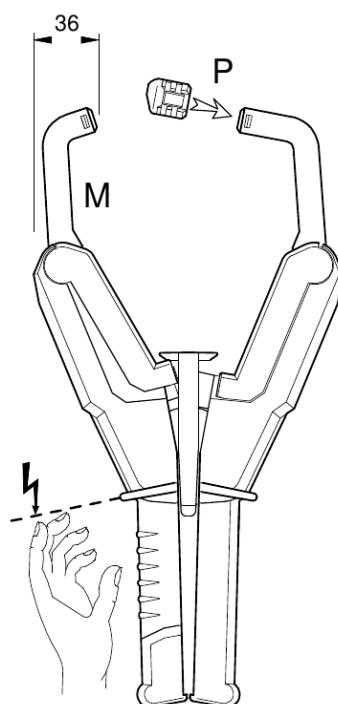

Figure 2.57: Protection against electric shock and short-circuit
- Use safety cover 'P' Figure 2.57 [→54] for protection against short-circuits during clamping!